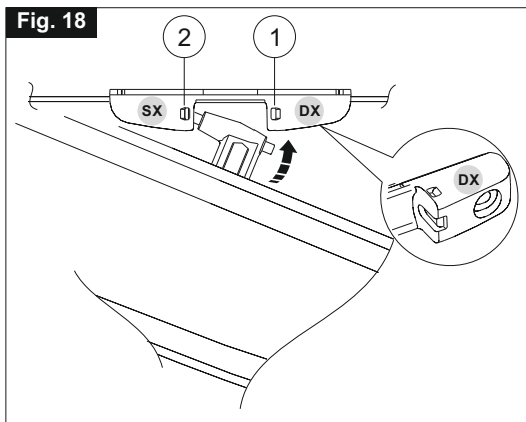

Fig. 19
- 8) **Fig. 19-** Tighten with the two standard supplied screws (**Ref. 1**) the actuator on the bracket connecting it to the window frame;